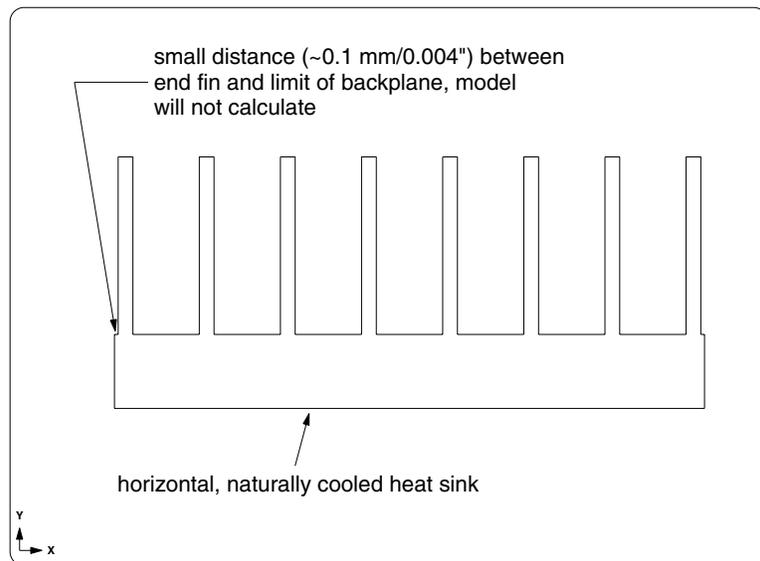

Figure 2: Horizontal heat sink bug
- Sauna V5.00 has a bug for naturally cooled horizontal backplane heat sinks (see Figure 2)